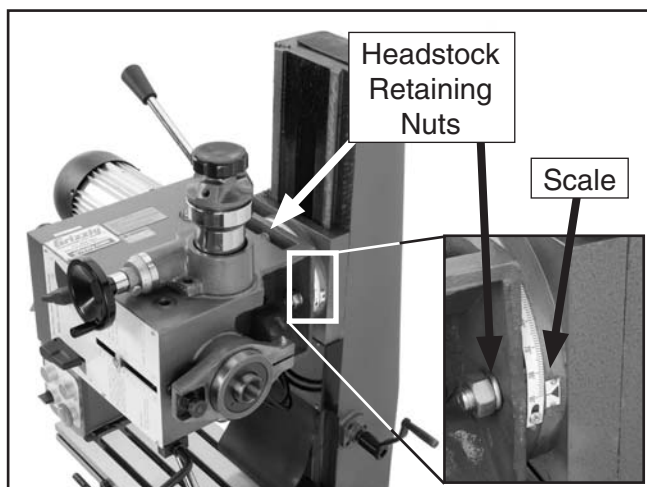

Figure 19. Headstock side tilt.
2. Using the included 24mm wrench, loosen the three headstock retaining nuts (**Figure 19**).